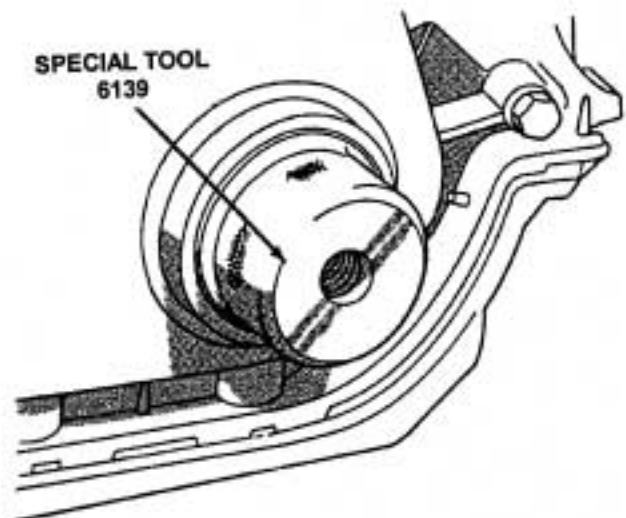

Figure 16
43. Apply a light coat of engine oil to the timing cover seal lip surface and install a new seal using Special Tool 6139 (Figure 16).
46. Insert the Timing Case Cover Alignment and Seal Installation Tool (Special Tool 6139) in the crankshaft opening in the cover (Figure 16).